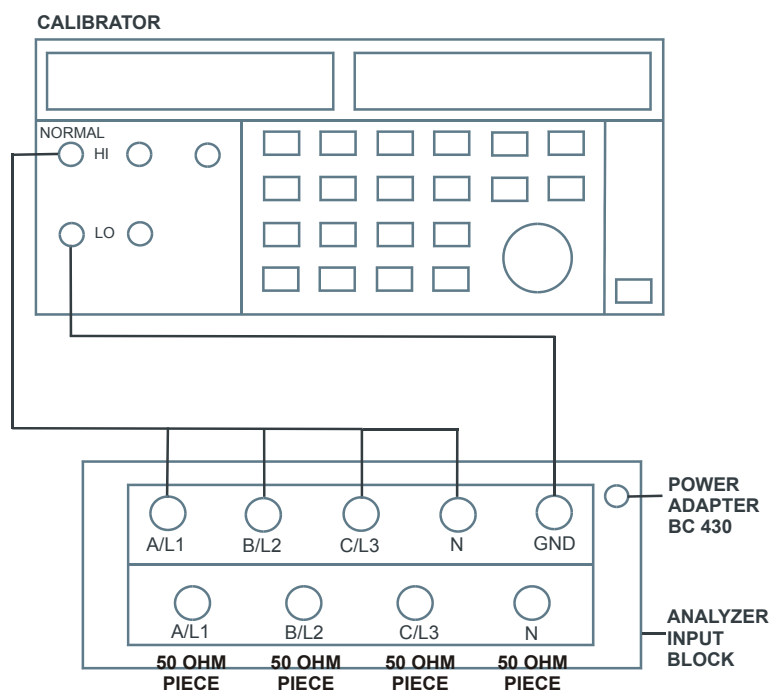

Figure 4-4. Checking the Channel isolation.
- Connect the N input with the C/L3 input (See Figure 4-4). A/L1, B/L2, C/L3 now give zero reading.
10. Connect the N input with the C/L3 input (See Figure 4-4). A/L1, B/L2, C/L3 now give zero reading.